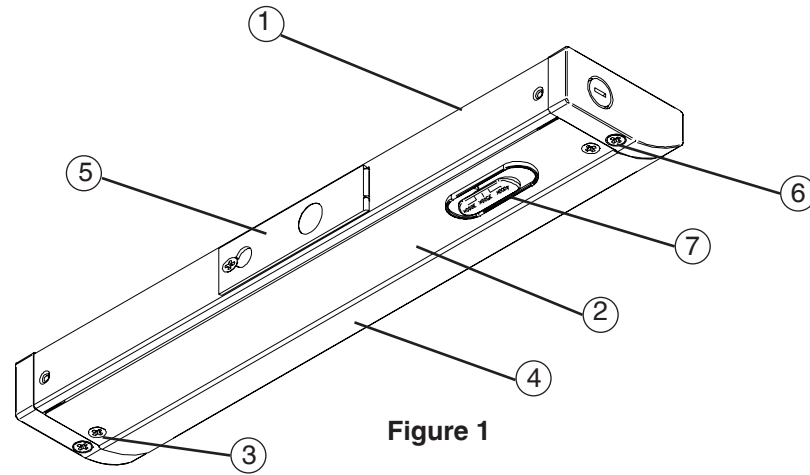

Figure 1
1.Remove the parts pack and place it in a convenient location during installation. Check that all parts are included- See Fig 1
1. Remueva el paquete de partes y colóquelo en un lugar conveniente durante la instalación. Ver Fig 1